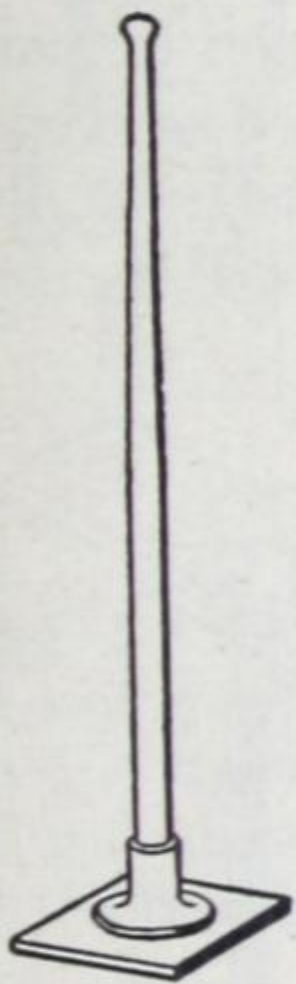

Fig. 8—Tamper—wooden handle with metal block at end—to pack concrete into place
B. Pack it down lightly with a tamper or rammer. See Fig. 8. Do this until water shows on top of the concrete and mortar covers all the stones from sight. This makes the mixture dense.